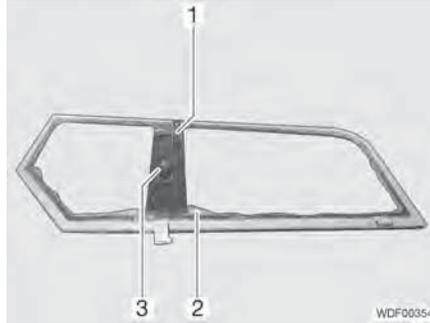

Fig. 374 Remains of the window
- Remove and set aside fittings under which there are splinters, e.g. door handle (Fig. 374,1).
- Remove and clean the seals (Fig. 374,3) and place them aside.